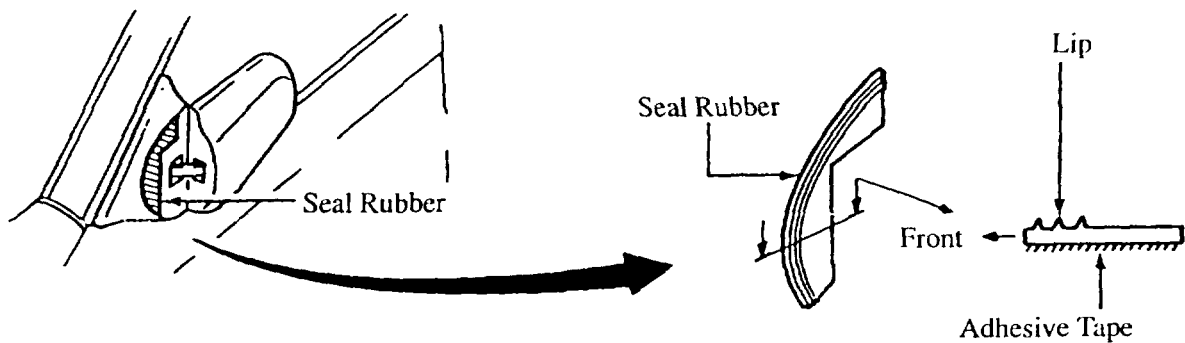

Figure 3: Door Mirror
7. Add respective (right and lip) seal rubber to the mirror base. **Figure 3.**